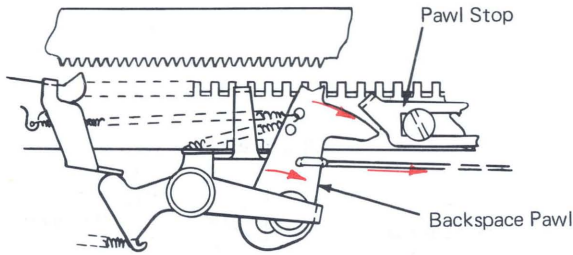

Figure 8 – Backspace Pawl (Not Engaged In Rack) (Bottom View)
2. The backspace pawl pivots without engaging the escapement rack and bypasses the backspace pawl stop (Figure 8).